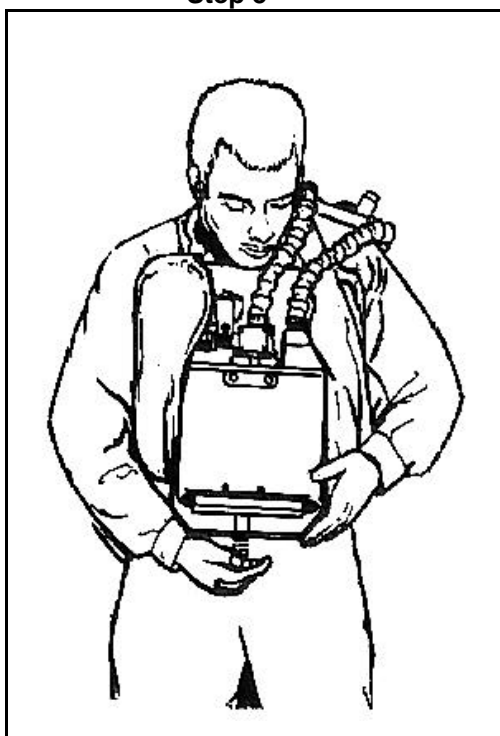

Figure 11-45. Putting on the OBA, Step 7
- **Step 7.** Swing the retaining bail down under the canister and tighten the retainer (a heavy screw with a pad and hand-wheel) by turning it clockwise. This secures the canister in the holder and forms a seal between the canister and the central casting. The point of the central casting punctures the copper seal (Figure 11-45, page 11-60).